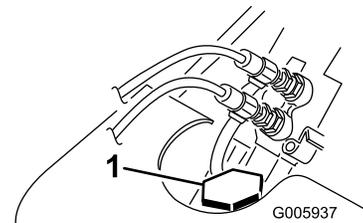

Figure 14
3. Remove the radiator filler cap and check the coolant level (Figure 14).